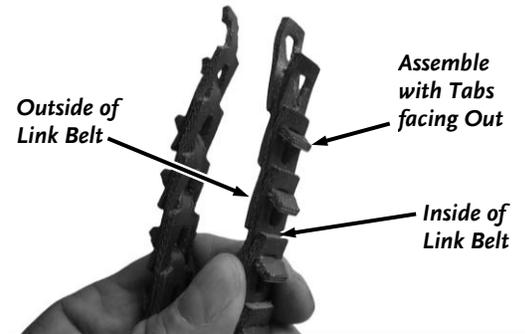

Figure 42
1. Turn the Belt inside out so the inside Tabs are facing out (**Figure 42**).